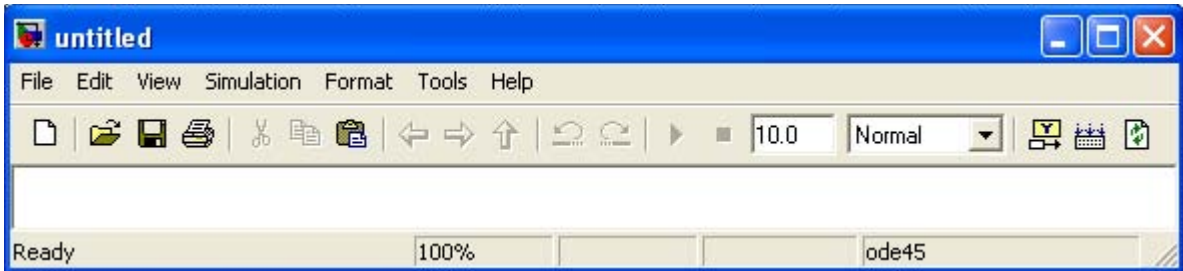
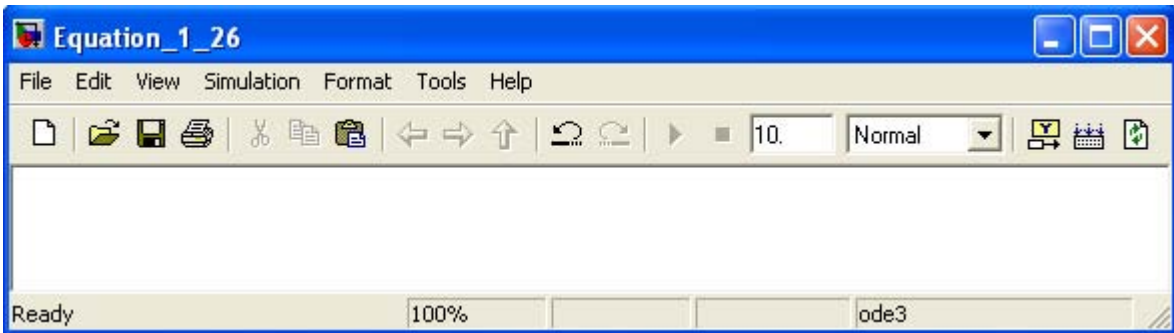

Figure B.6. The Untitled model window in Simulink.
Figure B.7. Model window for Equation\_1\_26.mdl file
1. On the **Simulink Library Browser**, we click on the leftmost icon shown as a blank page on the top title bar. A new model window named **untitled** will appear as shown in Figure B.6.
The window of Figure B.6 is the model window where we enter our blocks to form a block diagram. We save this as model file name **Equation\_1\_26**. This is done from the File drop menu of Figure B.6 where we choose **Save as** and name the file as **Equation\_1\_26**. Simulink will add the extension **.mdl**. The new model window will now be shown as **Equation\_1\_26**, and all saved files will have this appearance. See Figure B.7.